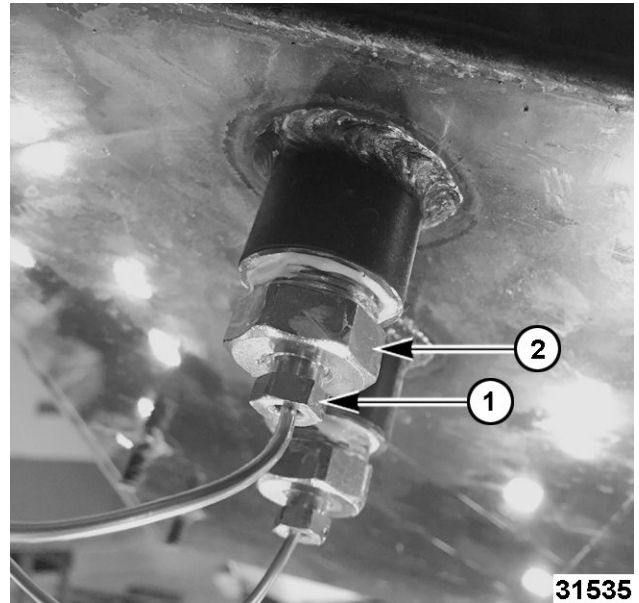

Fig. 10
7. Loosen packing nut (1, Fig. 10) and remove holding nut (2, Fig. 10).